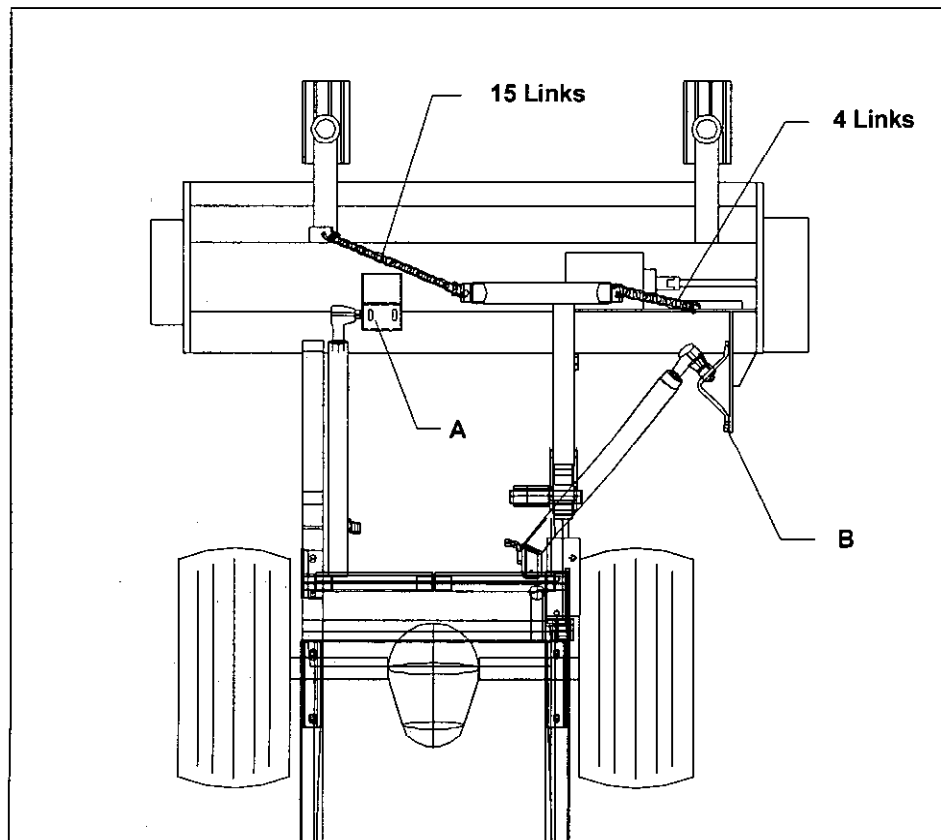

Figure 1
### ATTACH FLAIL TO 300 SERIES GROUNDMASTER® (Fig. 1)
4. Push the Flail towards the Grounds-master until the Push Arms are in line with the mounting brackets. See Fig. 1.
7. Line up the left push arm with the lower push arm bracket (A). The Push Arm Bracket attaches underneath. Fasten with 7/16" x 1-1/2" bolts, flatwashers, lockwashers and nuts. Leave the bolts finger tight.
8. Line up the right push arm with the bracket on the FLAIL housing (B). Fasten with 7/16" x 1-1/2" bolts, flatwashers, lockwashers and nuts. Leave the bolts finger tight.
13. Attach the Left Hand Chain (15 links) and the Right Hand Chain (4 links) to the Center Arm as shown in Fig. 1. Secure shackle bolts.